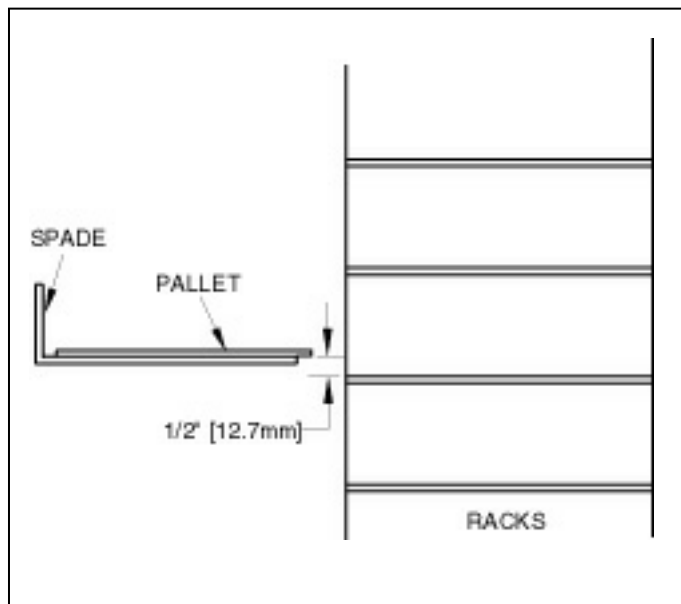

Figure 2.25 SWITCH LS-35 ADJUSTMENT.
- 2.2.5.6** Manually move the spade (see section 6.2) until it reaches the rack but does not enter. Then move spade up and down until top of spade is 1/2" [12.7mm] below bottom of pallet (see figure 2.25). Then move cam until switch LS-35 is actuated (screen will indicate that switch has been tripped).